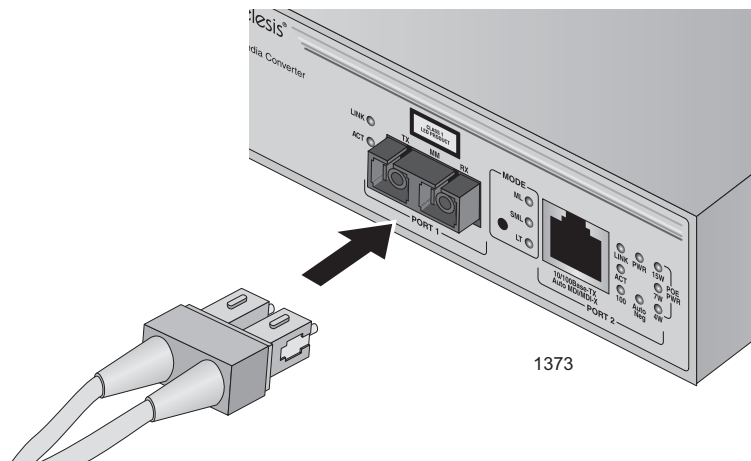

Figure 9. Connecting to the Fiber Optic Ports
2. Connect the fiber optic cable to the port, as shown in Figure 9 on page 41.